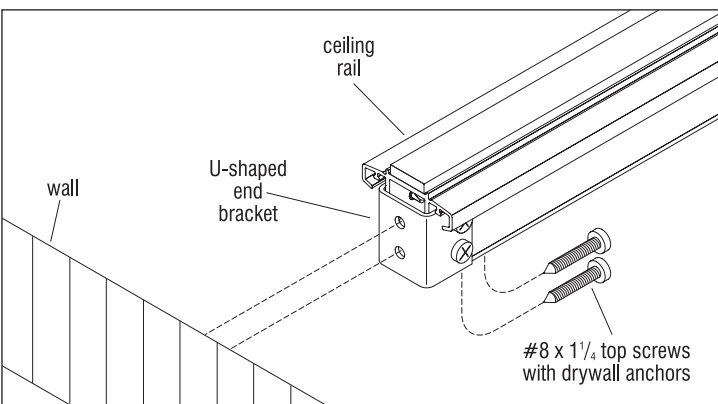

Figure 7
9. If attaching to drywall, use the supplied #8 x 1 1/4" tap screws, drywall anchors and secure the ceiling rail with bracket to the drywall (Figure 7).